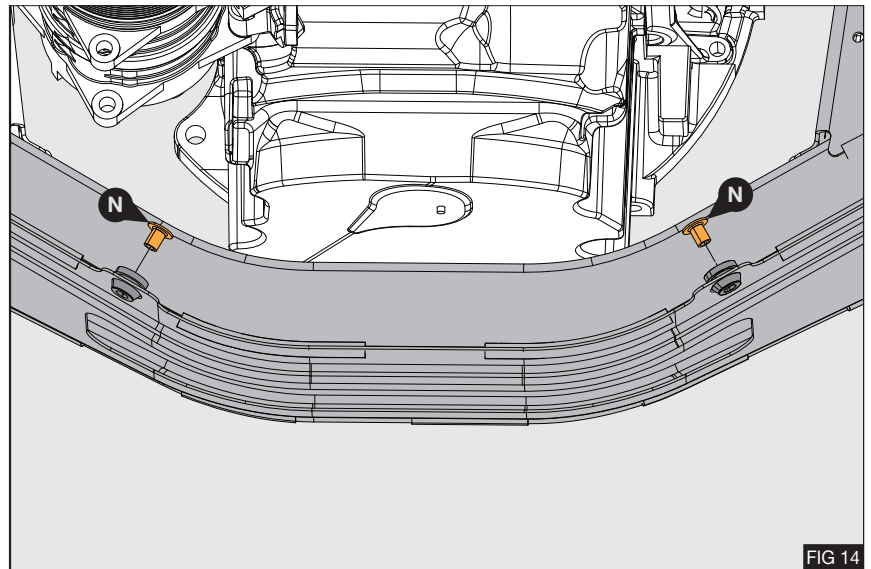

FIG 14
2. Remove the bush inserts (N) and re fit them from the direction shown - Fig 14